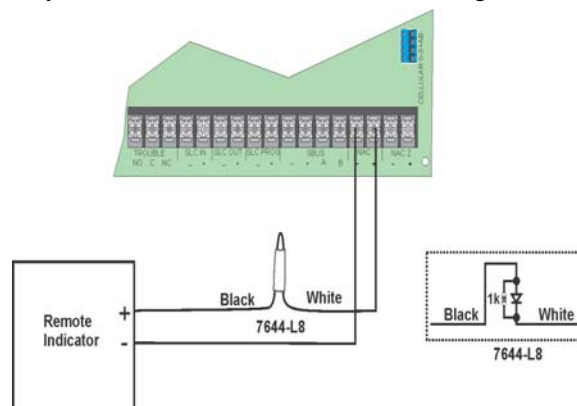

Figure 4.52 Polarity Reversal Connection Using the 7644-L8
- Wired the 7644-L8 to the control panel as shown in Figure 4.52. Do not install an EOL resistor on the terminals of the NAC circuit used.